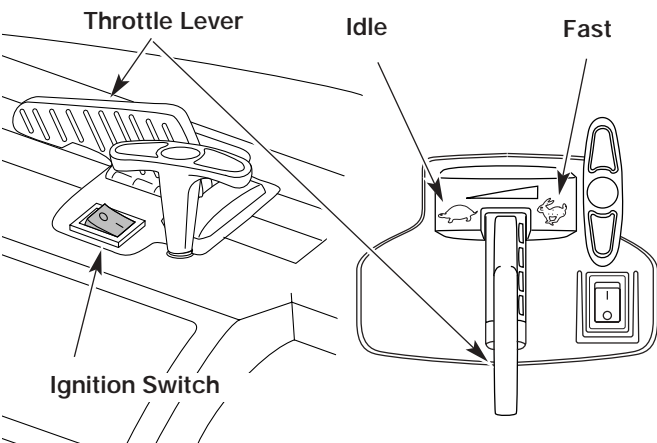
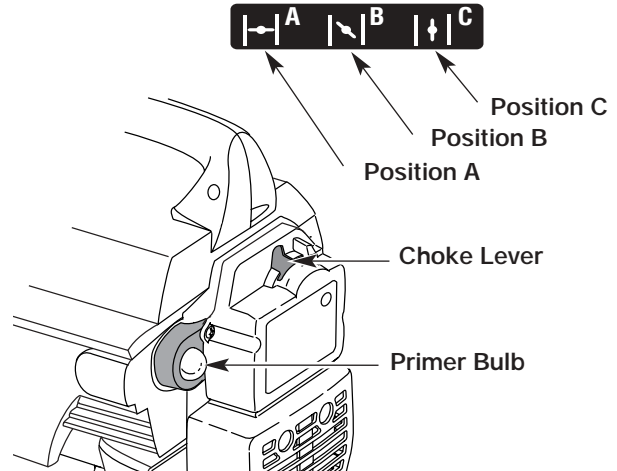

Fig. 10
Fig. 11
**NOTE:** The ignition switch is a momentary switch and is always in the ON (I) position (Fig. 10).
3. Fully press and release primer bulb slowly 10 times. Petrol should be felt and visible in the bulb (Fig. 11). If petrol hasn't entered the bulb, press until it does.
4. Place the choke lever in Position A (Fig. 11).
5. With the unit on the ground, move the throttle lever to the fast position (👉) (Fig. 10).
7. Place the choke lever in Position B (Fig. 11).
10. Allow the engine to warm up for 5 to 10 seconds. Place the choke lever in Position C (Fig. 11).
**NOTE:** If the engine floods while trying to start, place the choke lever in Position C. Move the throttle lever to the fast position (👉) (Fig. 10). Pull the starter rope briskly. The engine should start with three (3) to eight (8) pulls.
**NOTE:** Choking is unnecessary when starting a warm engine. Put the throttle lever in the fast position (👉) (Fig. 10) and start unit with the choke lever in Position B (Fig. 11).
1. Move the throttle lever to the idle position (👈) (Fig. 10). Allow the engine to cool down by idling.
2. Press and hold the ignition switch down in the **STOP [O]** position until the engine comes to a complete stop (Fig. 10).
1. Put the Ignition Switch in the **OFF** position [O] (Fig. 10) and wait for the impeller to stop rotating.